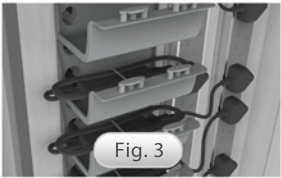

Fig. 3
1. Plug your device adaptor into the rear of the trolley and place the adaptor block (if needed) into the adaptor tray. (See Fig. 3)